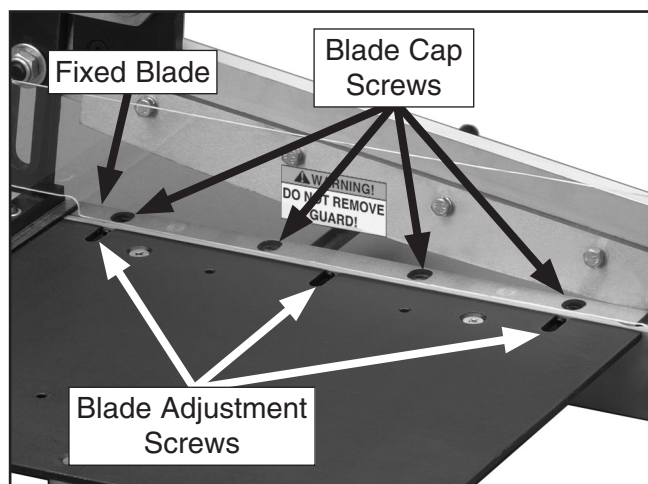

Figure 7. Blade adjustment.
2. Loosen, but do not remove the four blade cap screws (**Figure 7**).